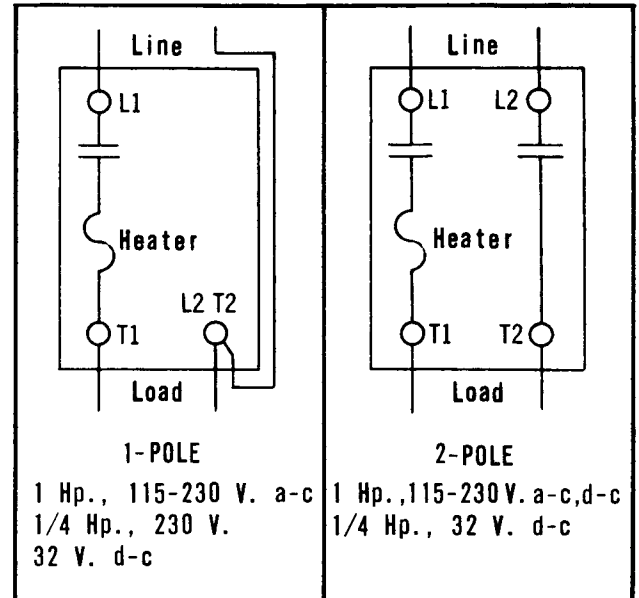

Fig. 2 Wiring Diagrams. Recommended Driving Torque of Power Connections is 18-20 Lb-In. Wire Range is #14 to #10 AWG Copper Only.
1. Strip connecting wires to depth indicated by gauge (3) on side of switch. (See Fig. 1) Insert stripped wires straight into terminals (2) and tighten terminal screws (4). See wiring diagrams (Fig. 2) or on sides of switch.